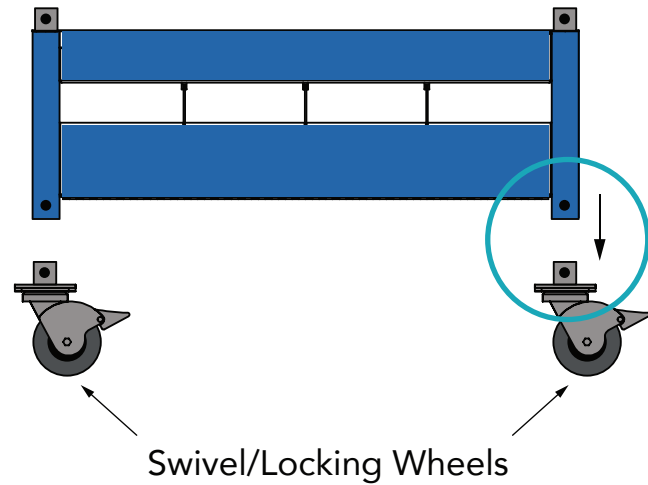
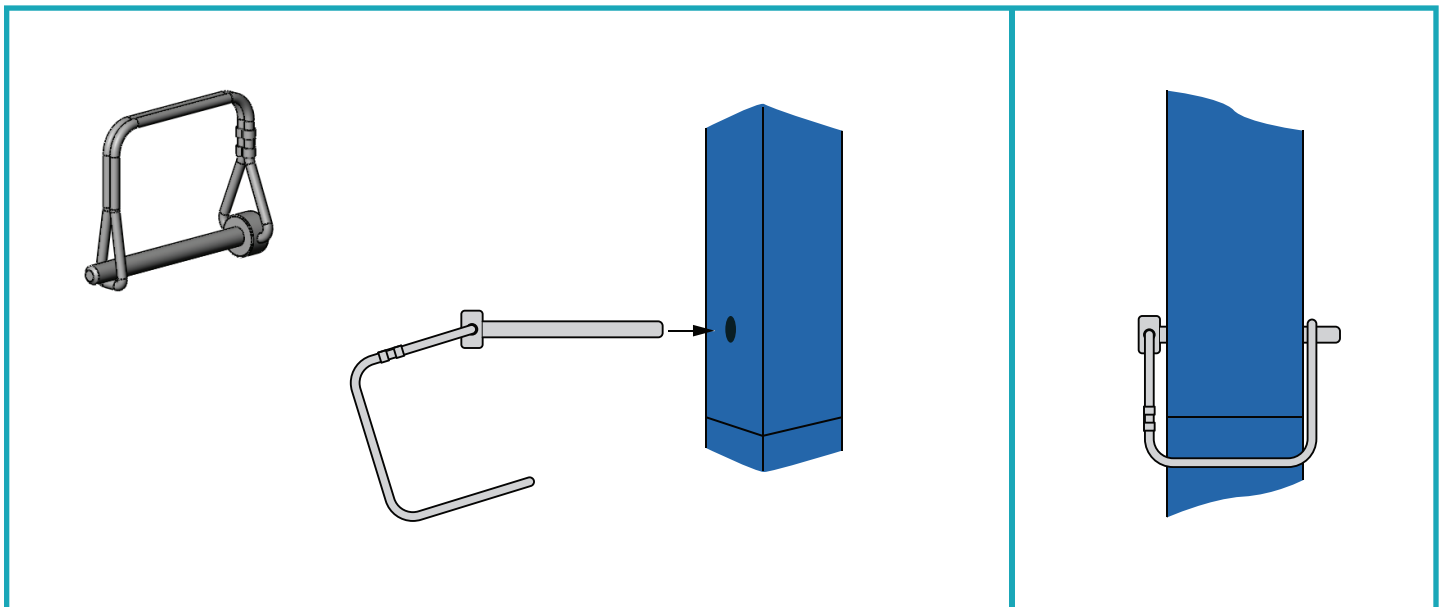
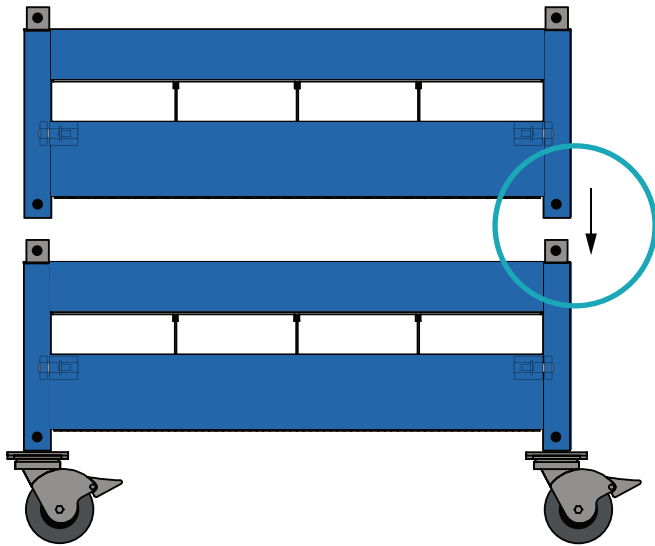
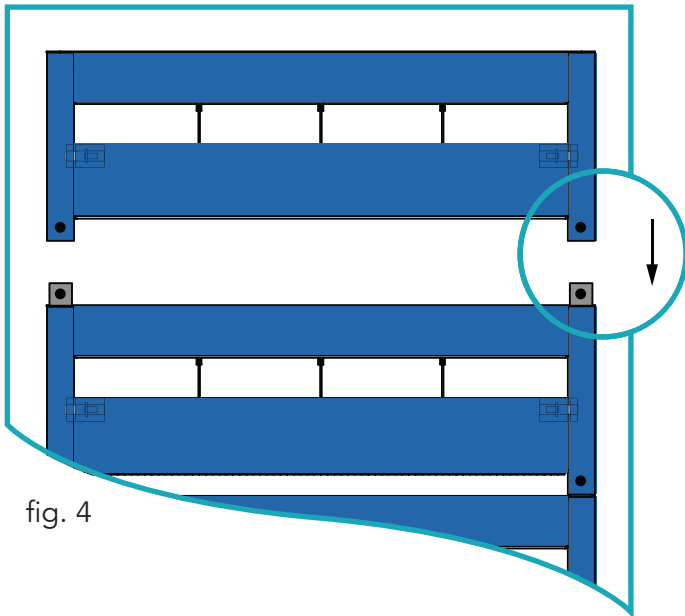

fig. 1
fig. 2
fig. 3
fig. 4
**Step 1:** Install wheels on left and right sides of bottom base module by sliding wheels into corner channels as shown in fig. 1. Secure each wheel with the provided locking pins as shown in fig. 2. Note that the power strip should face the back of the unit.
**Step 2:** Install up to 3 additional base modules by aligning corner channels and sliding together as shown in fig. 3. Secure each module with the provided locking pins as shown previously in fig. 2
**Step 3:** Install top modules by aligning corner channels and sliding together as shown in fig. 4. Secure each module with the provided locking pins as shown previously in fig. 2